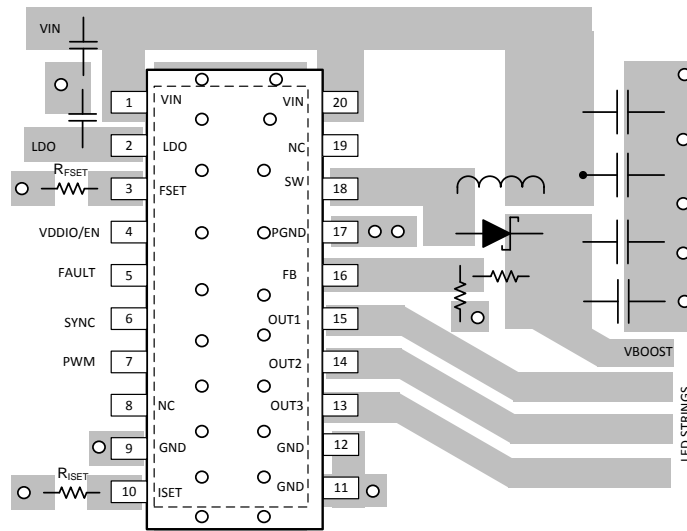

Figure 28. TPS61193-Q1 Boost Layout
**Figure 28** is a layout recommendation for TPS61193-Q1 used to demonstrate the principles of a good layout. This layout can be adapted to the actual application layout if or where possible. It is important that all boost components are close to the chip, and the high current traces must be wide enough. By placing boost components on one side of the chip it is easy to keep the ground plane intact below the high current paths. This way other chip pins can be routed more easily without splitting the ground plane. Bypass LDO capacitor must as close as possible to the device.